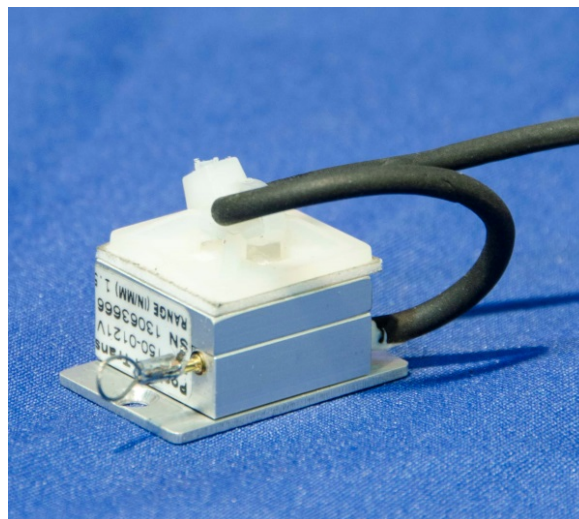
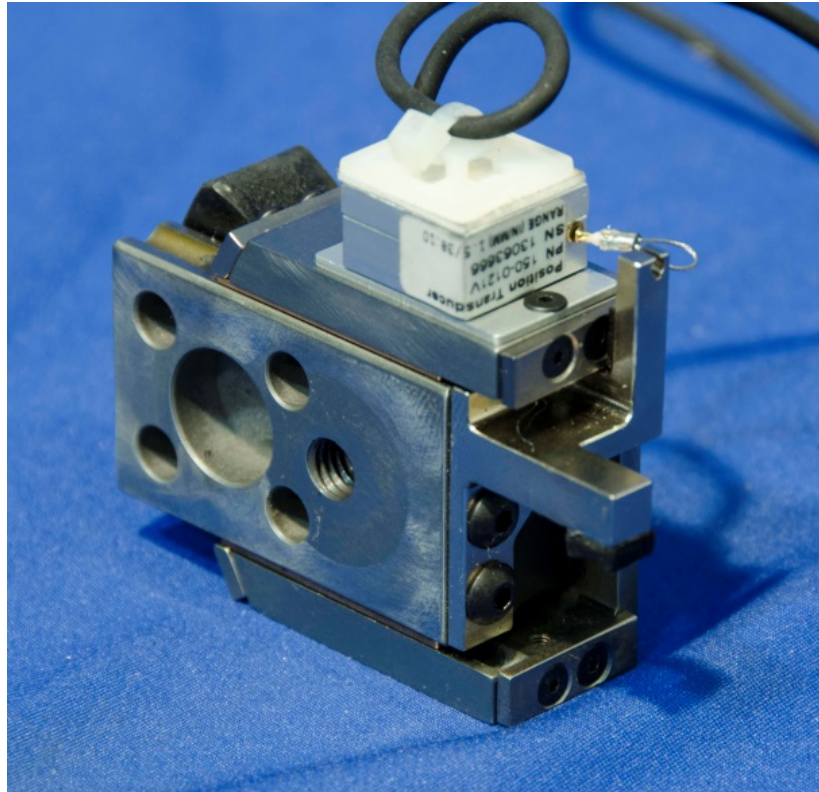

Figure 11-12. Strain relief for string pot
Figure 11-13. Attach string pot assembly to molded inboard knee slider
11.2.2.8 Secure a strain-relief adhesive clamp to the string pot housing and install the pot wiring through it leaving some slack for strain-relief (Figure 11-12). Attach the string pot and plate assembly to the molded inboard knee slider using two M2.5 x 0.45 x 5 FHCS as shown in Figure 11-13.